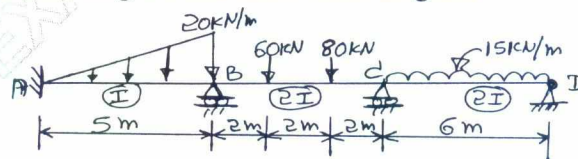

Fig.Q5
- 5 Analyze the continuous beam as shown in Fig.Q5 by Kani's method and also determine its bending moment diagram and shear force diagram.